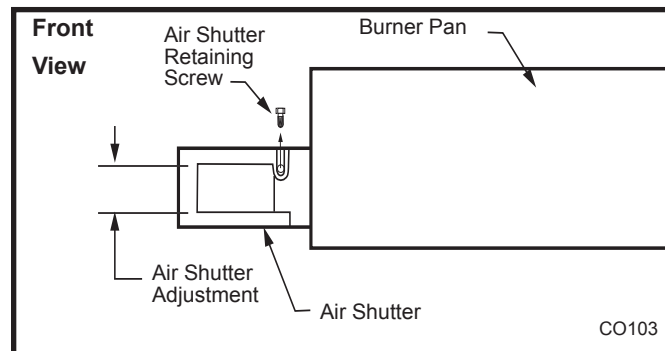

Fig. 4 Use appropriate air shutter and adjust according to Table 1.
5. Remove air shutter, if necessary (Refer to Table 1), from burner pan by removing shutter retaining screw then air shutter. (Fig. 4)